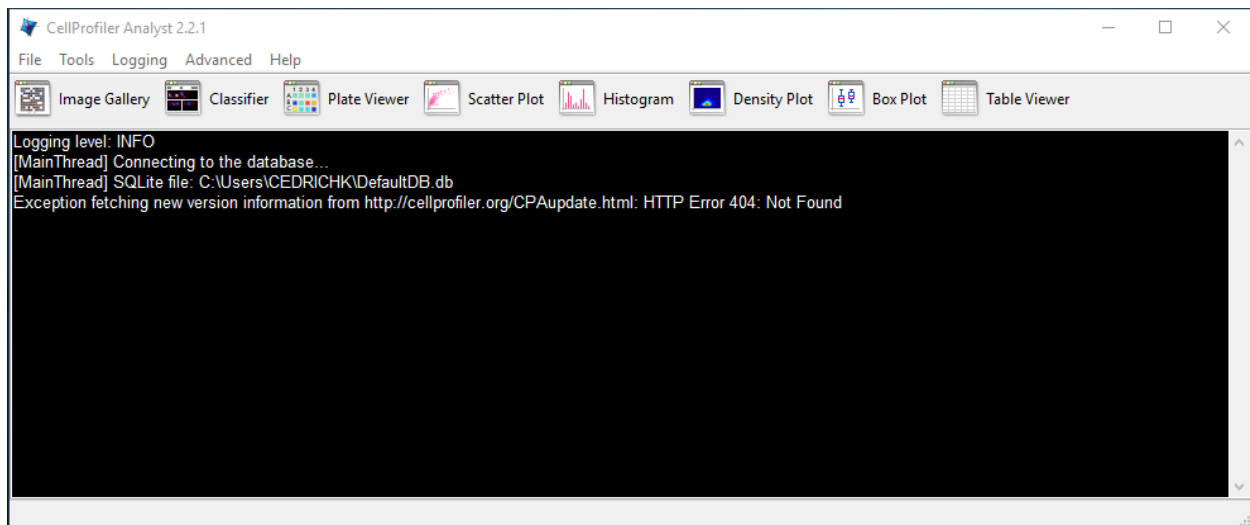

Figure 1: CellProfiler Analyst Interface
- a) Start CellProfiler Analyst (Figure 1) and open the properties file, *RF_DB_MyExpt* created by the *ExportToDatabase* module in CP pipeline.